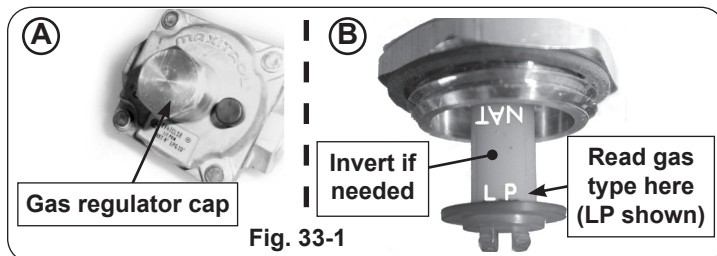
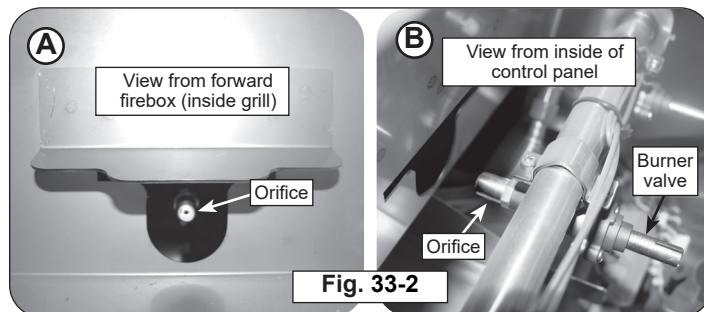

Fig. 33-1
Fig. 33-2
To check the regulator setting, remove the cap in the center of the regulator (Fig. 33-1, A). Holding the cap vertical (see Fig. 33-2, B), the letters at the bottom of the plastic stalk indicate the gas type for which the regulator is currently configured.
3. Use a $\frac{1}{2}$ " hex deep socket nut driver to remove the exposed orifices. Access the orifices through the holes in the forward firebox plate inside the grill (see Fig. 33-2, A). Check orifices. If needed, replace all with the correct orifices for the new gas.
Alternatively, the orifices can be accessed through the inside of the control panel if the proper tool is not available (see Fig. 33-2, B). This allows a $\frac{1}{2}$ " open-end wrench to be used instead of a $\frac{1}{2}$ " hex deep socket nut driver. To open the control panel, see the CONTROL PANEL REMOVAL section.